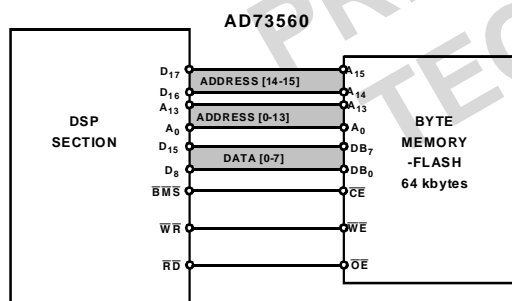

Figure 19. Flash Interface to DSP section
The flash memory section of the AD73560 is configured on the byte-wide DMA bus (BDMA) of the DSP section as shown in Figure 19. Hence if boot operation is required from the AD73560's internal flash memory, the boot mode selection pins Mode A, Mode B and Mode C should be set to zero (0).